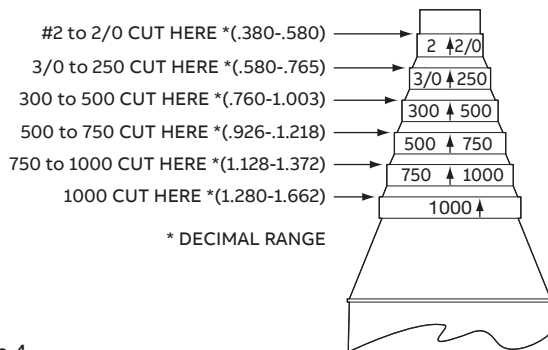

Figure 4
1. Remove flood seal from the outlet. Select correct cut-off ring for cable being used (Figure 4).